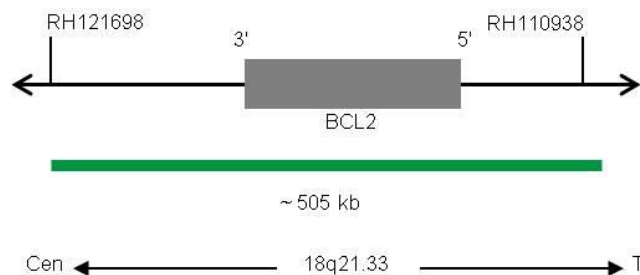

Fig. 1: SPEC BCL2 Probe map (not to scale)
- ZyGreen (excitation 503 nm/emission 528 nm) labeled polynucleotides (~10 ng/ μ l), which target sequences mapping in 18q21.33* (chr18:60,610,473-61,116,910) harboring the BCL2 gene region(see Fig. 1).